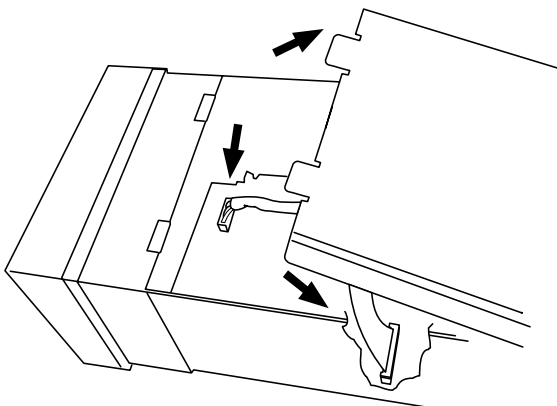

Figure 7.3.2c Disconnect looms; Remove cover plate
4. Carefully lift the front of the recorder case cover, and disconnect the two looms connecting it to the internal circuit board (figure 7.3.2c)